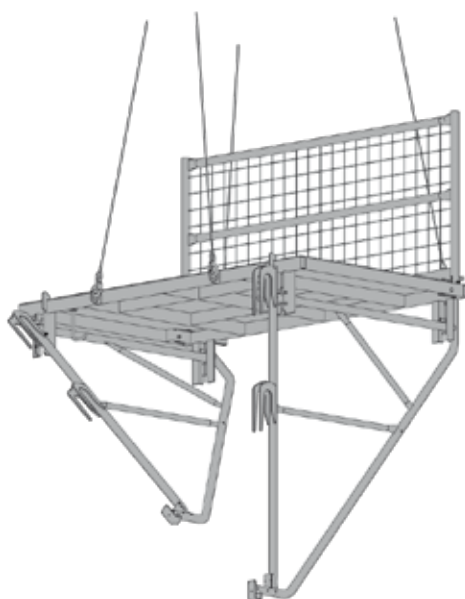

Fig. 18.3
4. Lift the platform and fold down the brackets one by the other (Fig. 18.3).